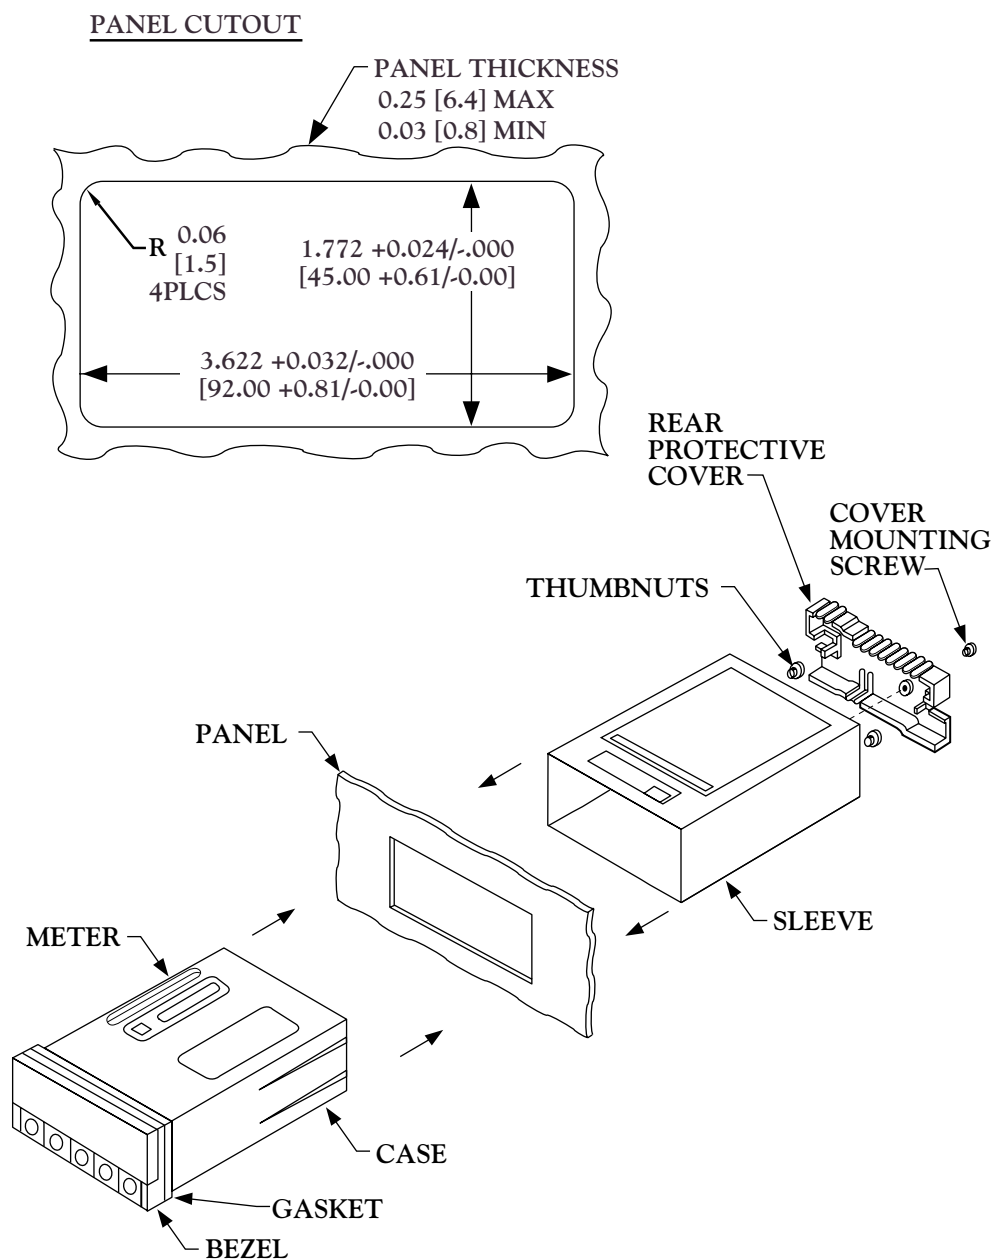

Figure 2-17. Panel-Mount Assembly
The meter can be mounted in a panel so that the front of the meter is flush with the vertical panel surface. Panel mounting can be seen as simply “sandwiching” the panel between the inner case and the outer sleeve in the last phases of assembly. **Figure 2-17 shows the panel cutout dimensions, and the dimensions for the panel thickness. It requires that the following already be done:**
If all of these steps are done, continue here using Figure 2-17 as a guide:
6. Punch or cut a hole in the panel using the panel cutout dimensions in Figure 2-17. Remove burrs and paint the panel as required.